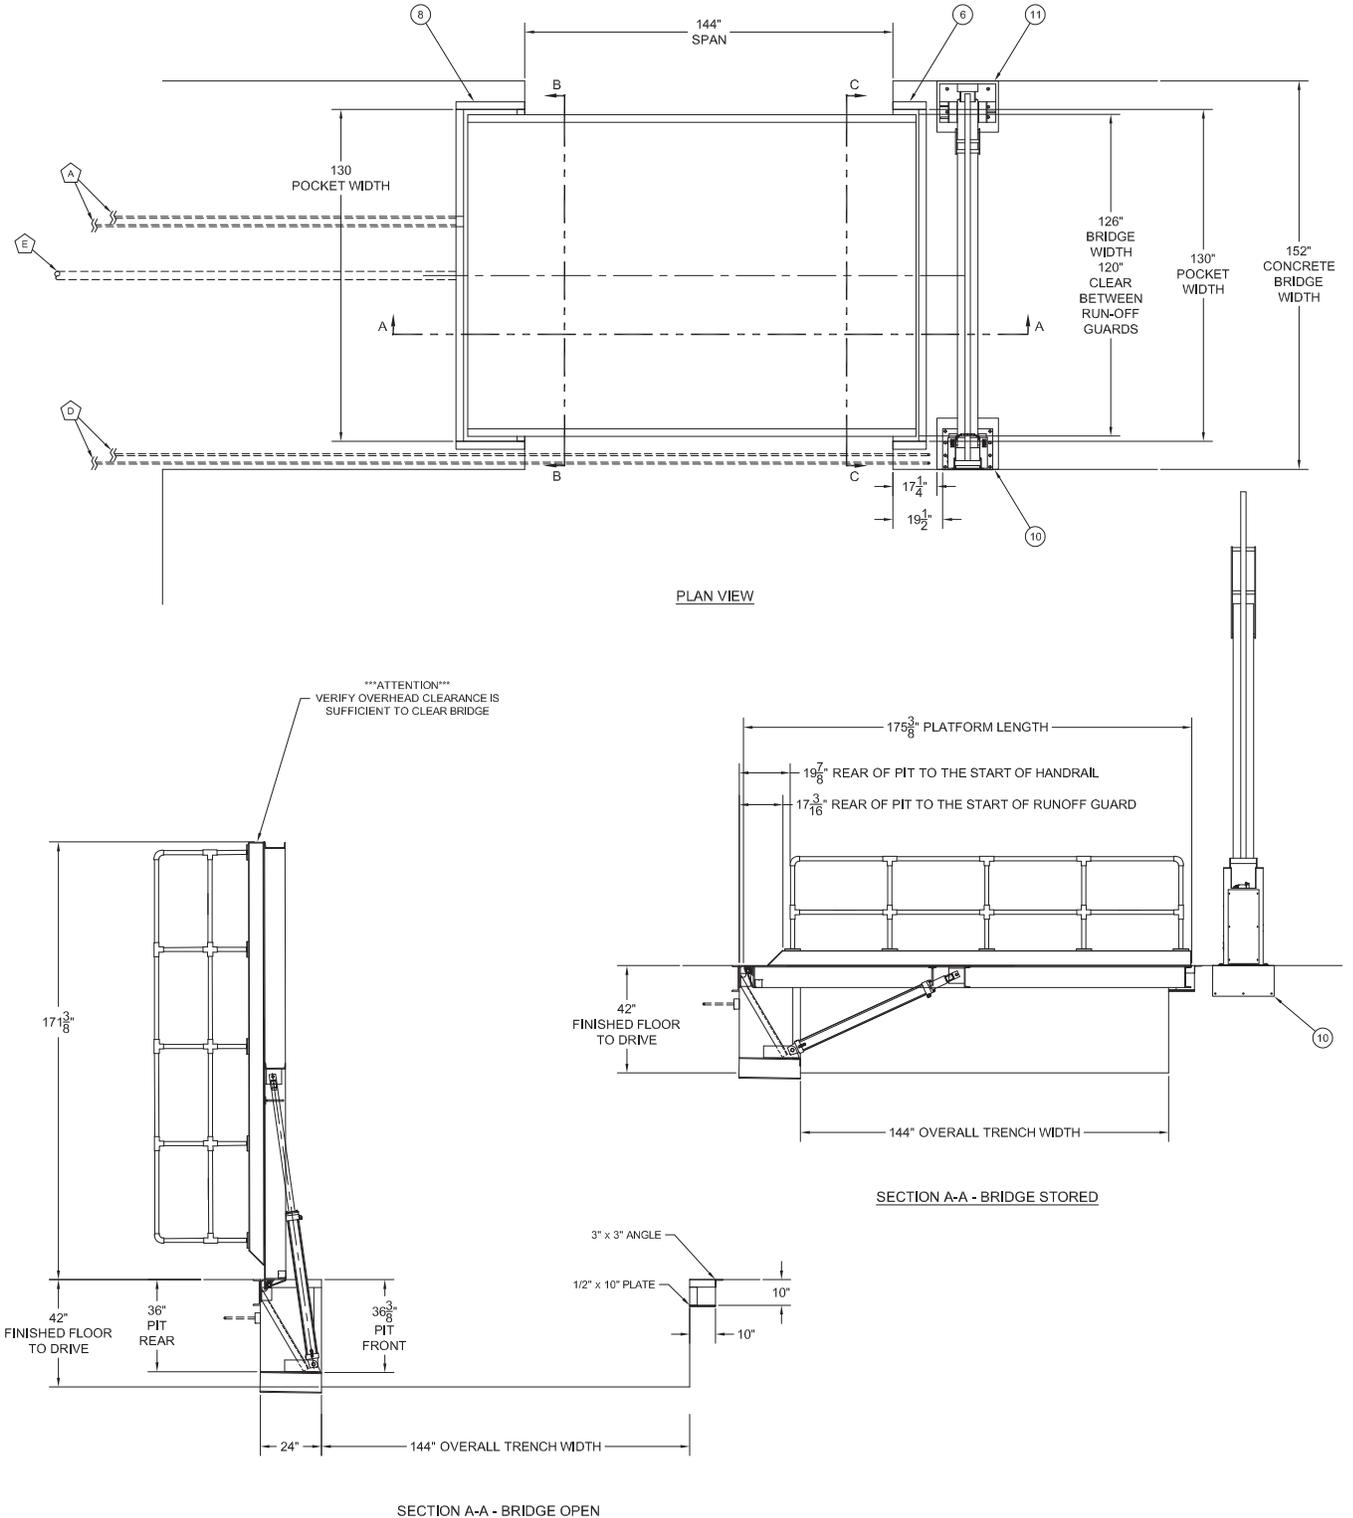

Figure 6
9. Once Bascule Bridge is inside the building, or near the install position, place the Bascule Bridge on four (4) blocks at least 8" (203.2 mm) tall and able to hold at least 2000 lbs (1000 kg) of weight to prepare the hydraulic installation.
10. Review layout drawings provided by Systems, LLC to gain an understanding of the next required steps. **Figure 6 is an example of a typical installation. Always use the measurements shown on the drawings provided with your equipment.**